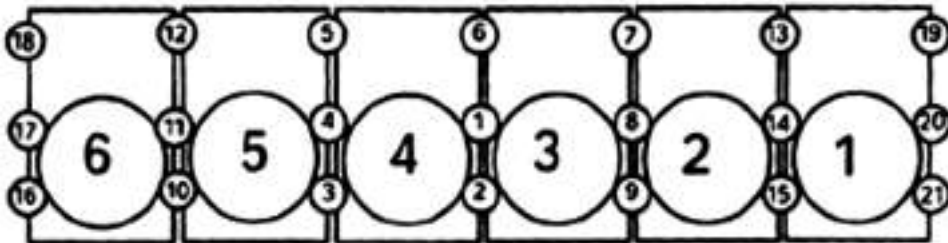

Fig.5 Sub-nut Tightening Order of Cylinder Head
- c. Tighten sub nut in the order shown in fig.5, and then turn the bolts to 900;
- e. Tighten sub nut in the order shown in fig.5, and then turn the bolts to 900;
- g. Tighten sub nut in the order shown in fig.5, and then turn the bolts to 900;